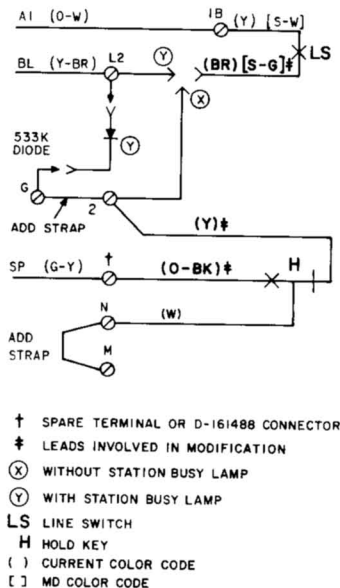

Fig. 2—1 Hold Arrangement
- Revise Fig. 2, Optional Features